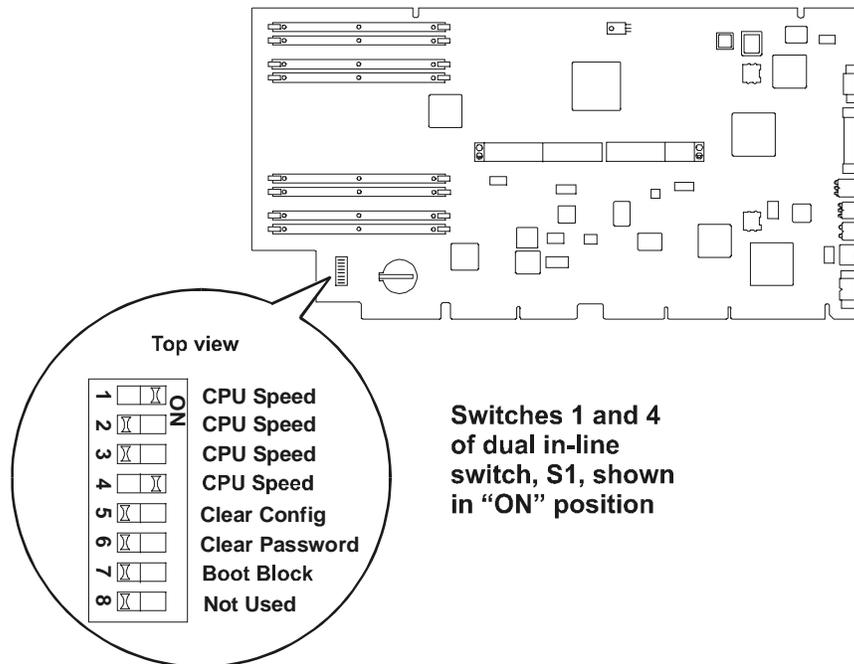

Figure 12-1. System Board Assembly and Configuration Switch
Refer to Figure 12-1 and the Technical Reference Card inside the top cover.
5. Move switch 6 on the system board (labeled "Clear Password") to the ON position (refer to Figure 12-1).